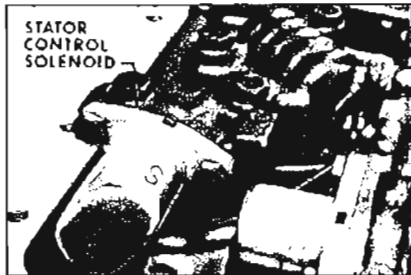

Figure 5-111
4. With a grease pencil mark stator control solenoid with an "S". This "S" will identify stator control solenoid for reassembly. See Figure 5-111.